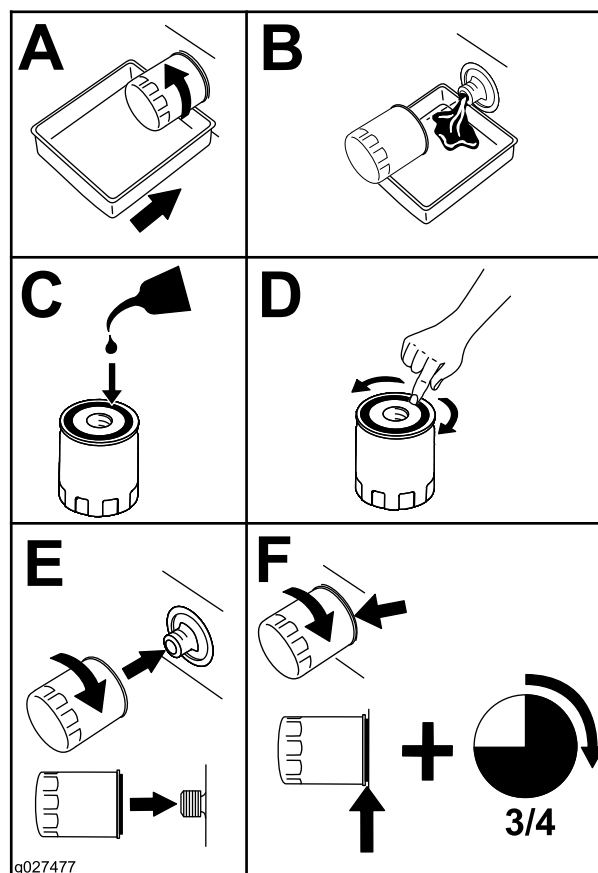

Figure 39
2. Change the engine oil filter (Figure 39).